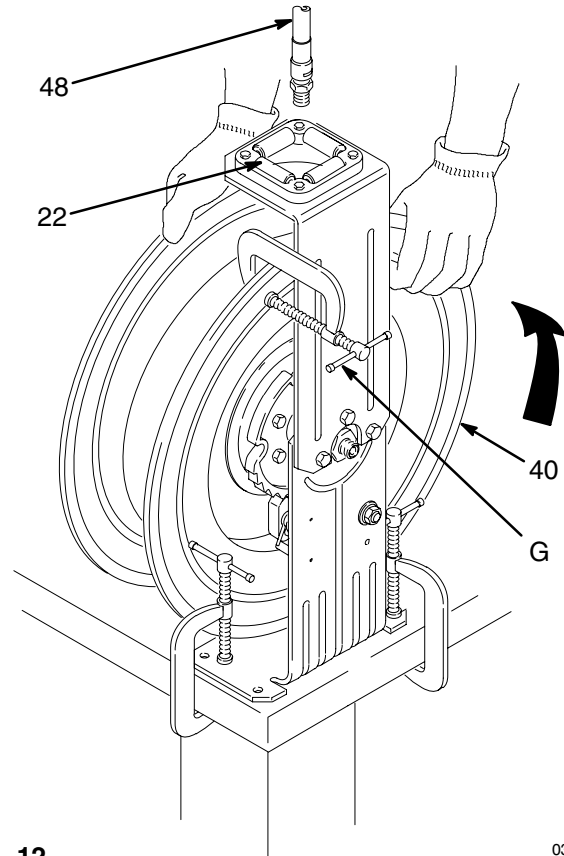
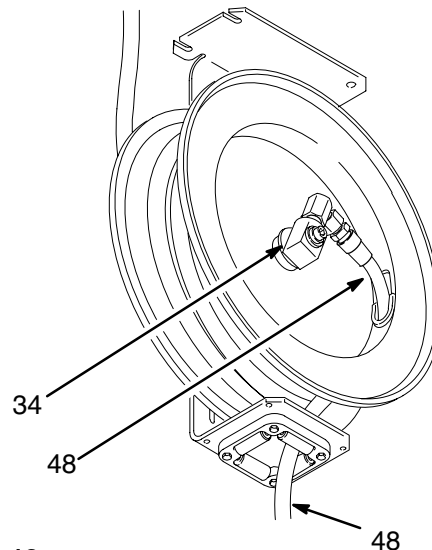

Fig. 12
Fig. 13
3. Wearing heavy gloves, firmly grab the outside edge of the reel flange with both hands. See Fig. 12. Wind the reel the proper number of turns, rotating it in the direction shown in Fig. 12, and stop only at latching locations. Stop the reel where there is access to the hose swivel (34) (see Fig. 13) and where the reel is securely latched.
4. Before you install the hose, attach a C-clamp (G) to the reel flange to help prevent the reel from unintentionally becoming unlatched and spinning freely. See Fig. 12.
5. Uncoil and extend the hose, attach the hose (48) to the hose reel swivel (34), and carefully remove the C-clamp. See Fig. 13.